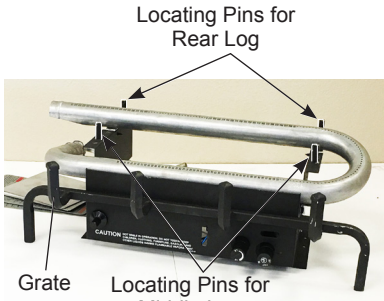

Figure 31 - Locating Pins
1. Align the holes in the bottom of the rear log (#1) over the rear locating pins, and gently adjust down until it is fully seated (see *Figures 31 and 32*).
2. Align the holes in the bottom of the middle log (#2) over the middle locating pins, and gently adjust down until it is fully seated (see *Figures 31 and 33*).